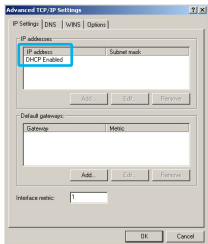

Figure 5
5. The <Advanced TCP/IP Settings> dialog box appears. At the **[IP Settings]** tab, check that the **IP Address** is set to **Enable DHCP**. (Figure 5)